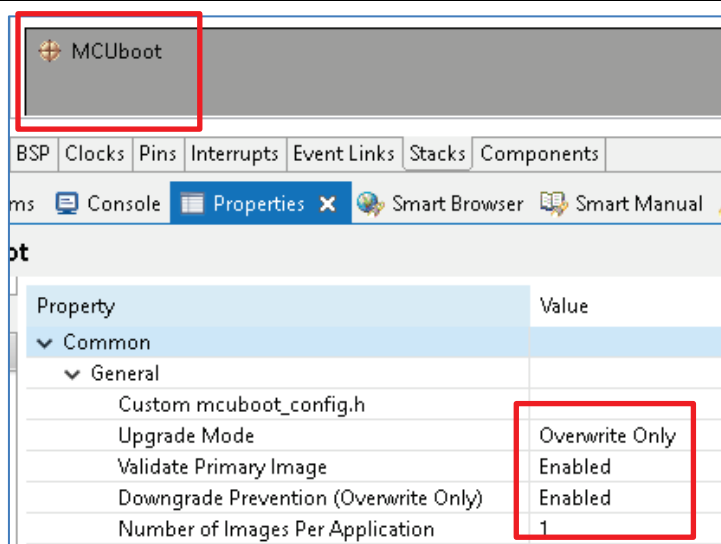

Figure 12. General Properties for MCUboot
- For project `ra_mcuboot_ra2e1` and `ra_mcuboot_ra2e1_overwrite_with_signature`, use the settings in Figure 12.
- For project `ra_mcuboot_ra2e1_swap` and `ra_mcuboot_ra2e1_swap_with_signature`, update the following properties in Figure 12: